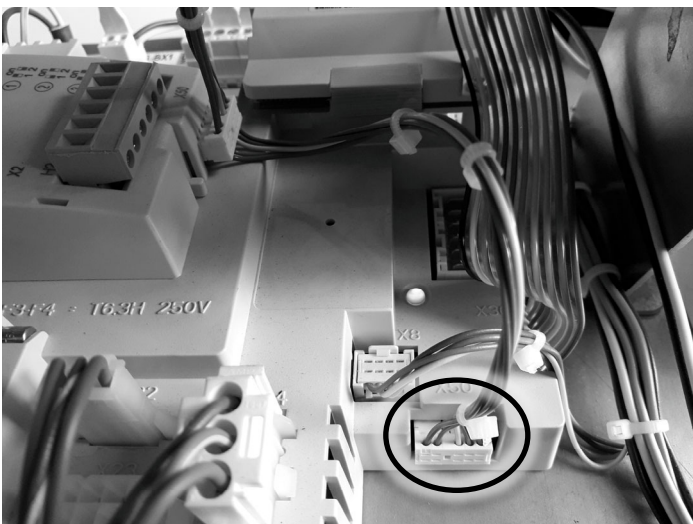

Figure 5: BSB cable termination
- ◆ Install The new BSB cable between the MS controller, the preinstalled extension module and the new extension module(s). Ensure the BSB cable is terminated at the LMS controller (see figure 5).